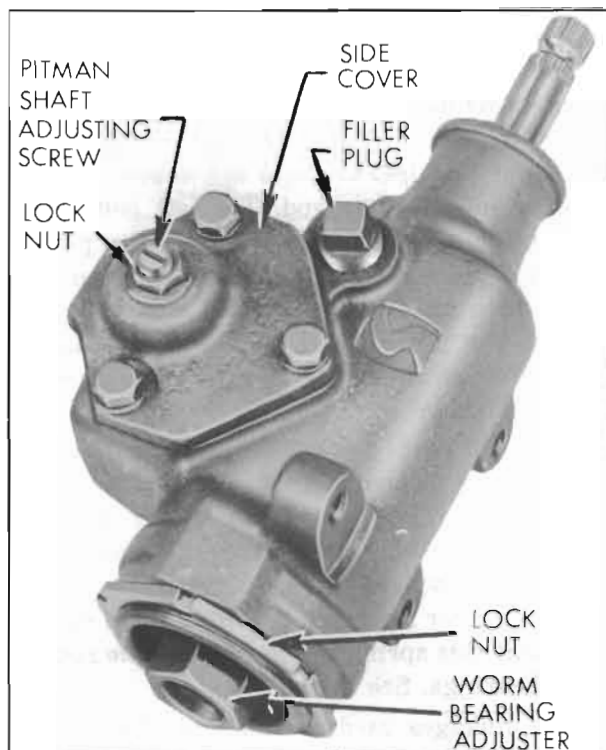

Figure 8-3—Steering Gear Adjusters
6. *Adjust Worm Bearing Preload.* Loosen worm bearing adjuster lock nut using a drift. See Figure 8-3. Turn bearing adjuster as required to bring scale pull between $\frac{1}{4}$ and $\frac{3}{4}$ pounds. Tighten lock nut, then recheck preload.